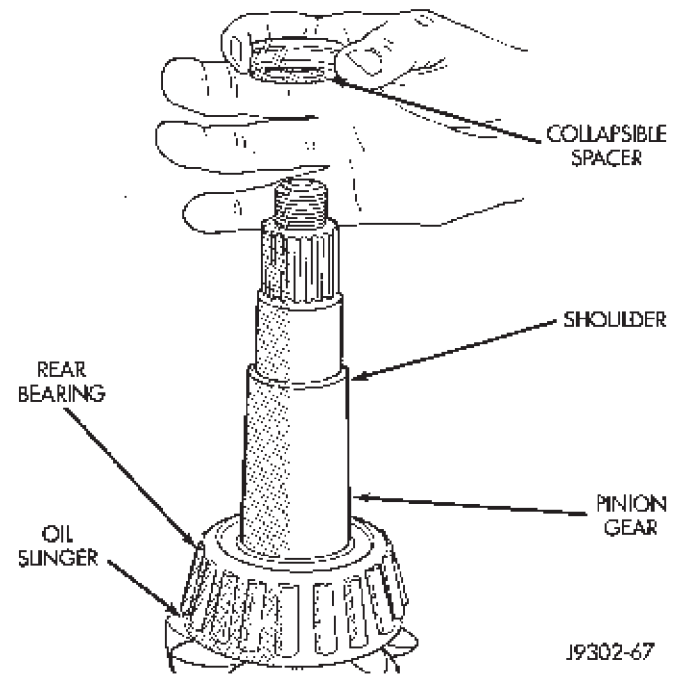
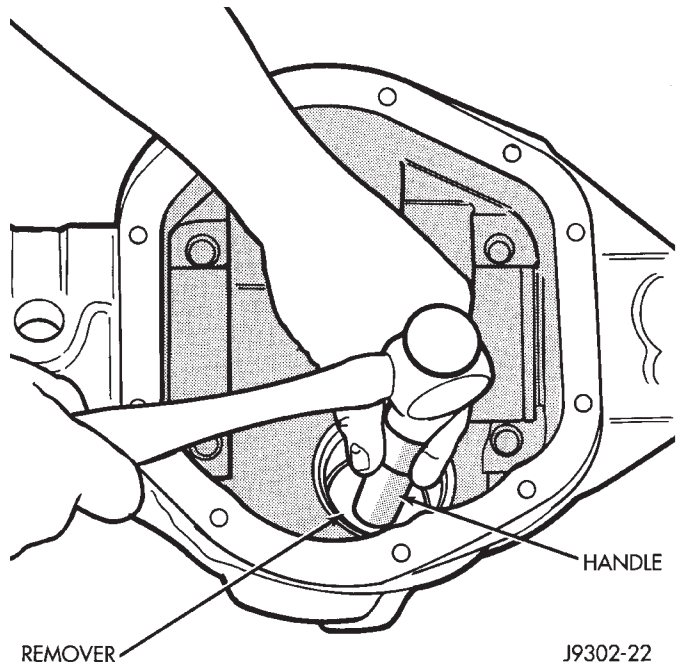

Fig. 18 Collapsible Spacer
Fig. 19 Front Bearing Cup Removal
(4) Remove the collapsible preload spacer (Fig. 18).
(5) Remove oil slinger, front bearing.
(6) Remove the front pinion bearing cup with Remover D-147 and Handle C-4171 (Fig. 19).